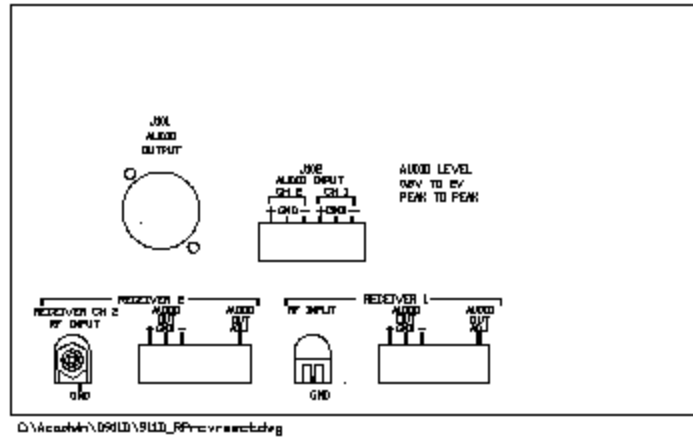

Figure 8-5. Receiver Section Rear Panel Controls and Connectors
Receiver rear panel controls and connectors are shown in Figure 8-5. Numbered items in this figure are explained in Table 2.3-3 item 10 to 15.